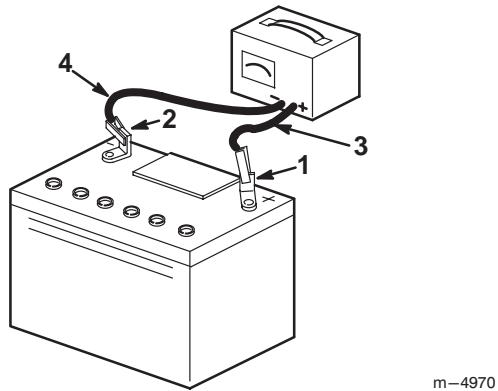

Figure 27
- When the battery is fully charged, unplug the charger from the electrical outlet, then disconnect the charger leads from the battery posts (Fig. 27).